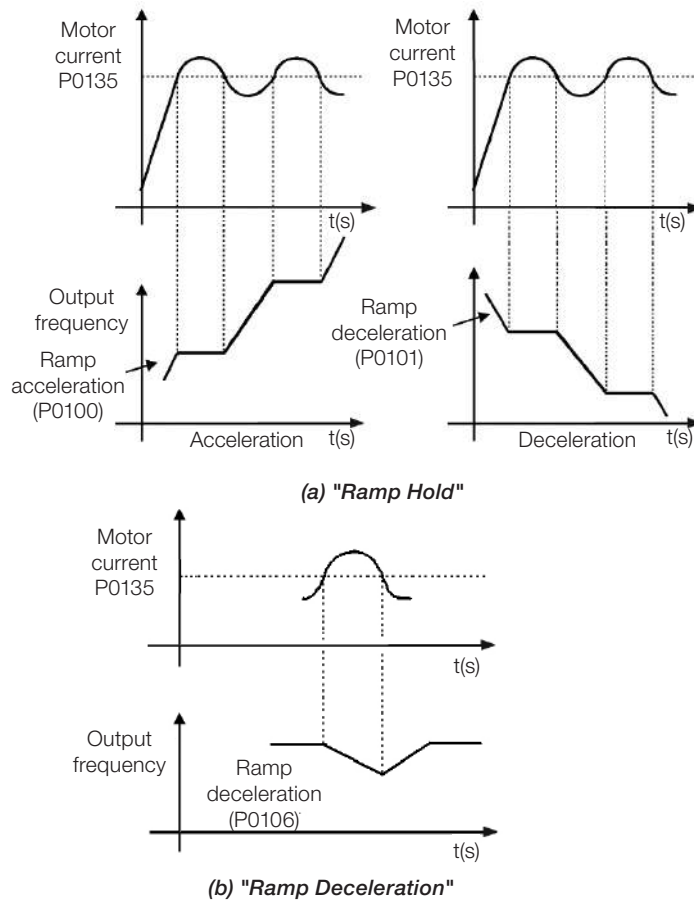

Figure 9.10: (a) and (b) Actuation modes of Current Limitation via P0135
- Actuation: the DC Link voltage is measured (P0004) and compared to the value set in P0151; the difference between those signals (error) is multiplied by the proportional gain (P0152); the result is then added to the ramp output, as per Figure 9.8 on page 9-11 and Figure 9.10 on page 9-12.
- Actuation: if the motor current exceeds the value set in P0135 during acceleration or deceleration, the speed will not be incremented (acceleration) or decremented (deceleration). When the motor current reaches a value below P0135, the motor accelerates or decelerates again. Refer to Figure 9.10 on page 9-12.
- Actuation: if the motor current exceeds the value set in P0135, a null value is forced for the speed ramp input forcing the motor deceleration. When the motor current reaches a value below P0135, the motor accelerates again. Look at Figure 9.10 on page 9-12.
Current level to activate the current limitation for the Ramp Hold and Decelerate Ramp modes, as per Figure 9.10 on page 9-12, respectively.